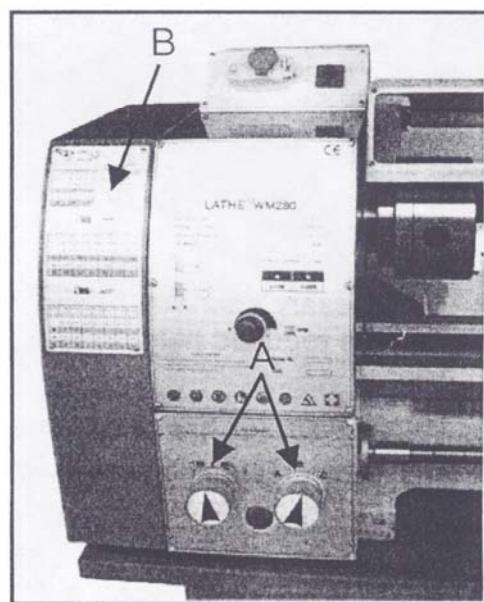

Fig. 8
Set the selector knob (A, Fig.8) to select the feed direction and feed speed. Only available on CQ6125V models. Use the table (B, Fig.8) on the lathe for selecting the feed speed or the thread pitch. Adjust the change gear if the required feed or thread pitch cannot be obtained with the installed gear set.
12. Loosen the locking screw (C, Fig.8) on the quadrant.
13. Swing the quadrant (D, Fig.8) to the right.
14. Unscrew the bolt (E, Fig.8) from the leadscrew or the square bolts (F, Fig.8) from the quadrant bolts in order to remove the change gears from the front.